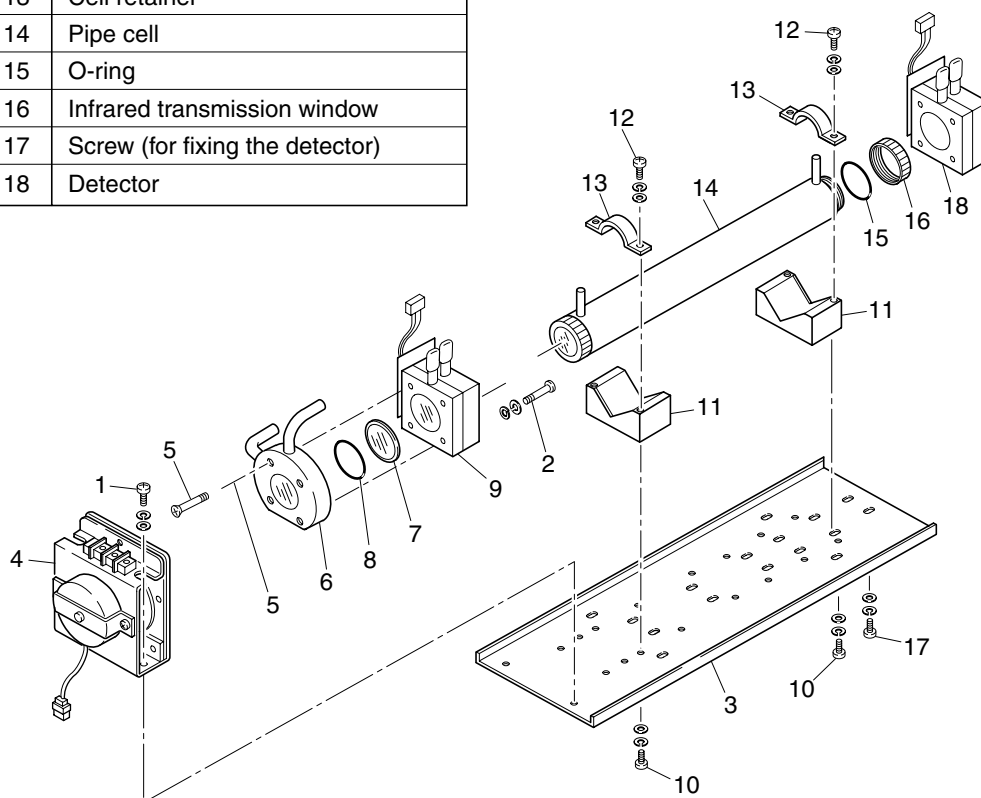

Fig. 7-3 Configuration of measuring unit (2-component analyzer: block cell + pipe cell)
3) How to remove measuring unit (See Fig. 7-3)